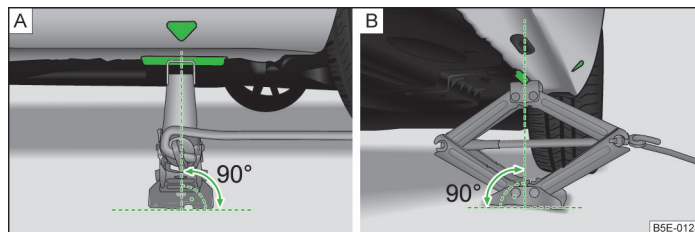

Fig. 200 Attach lifting jack
- Align the lifting jack so that its claw grasps the web » Fig. 200 - [B].
- Support the base plate of the lifting jack with its entire surface resting on level ground and ensure that the lever is positioned vertically to the point at which the claw grasps the web » Fig. 200 - [A].